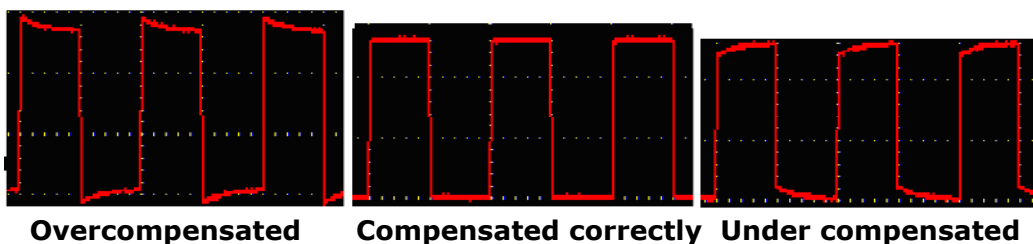
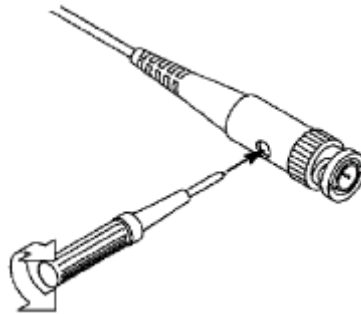

Figure 8. Displayed Waveforms of the Probe Compensation.
Figure 9. Adjust Probe.
- 2 Check the displayed waveforms and regulate the probe till a correct compensation is achieved (see Figure 8 and Figure 9).